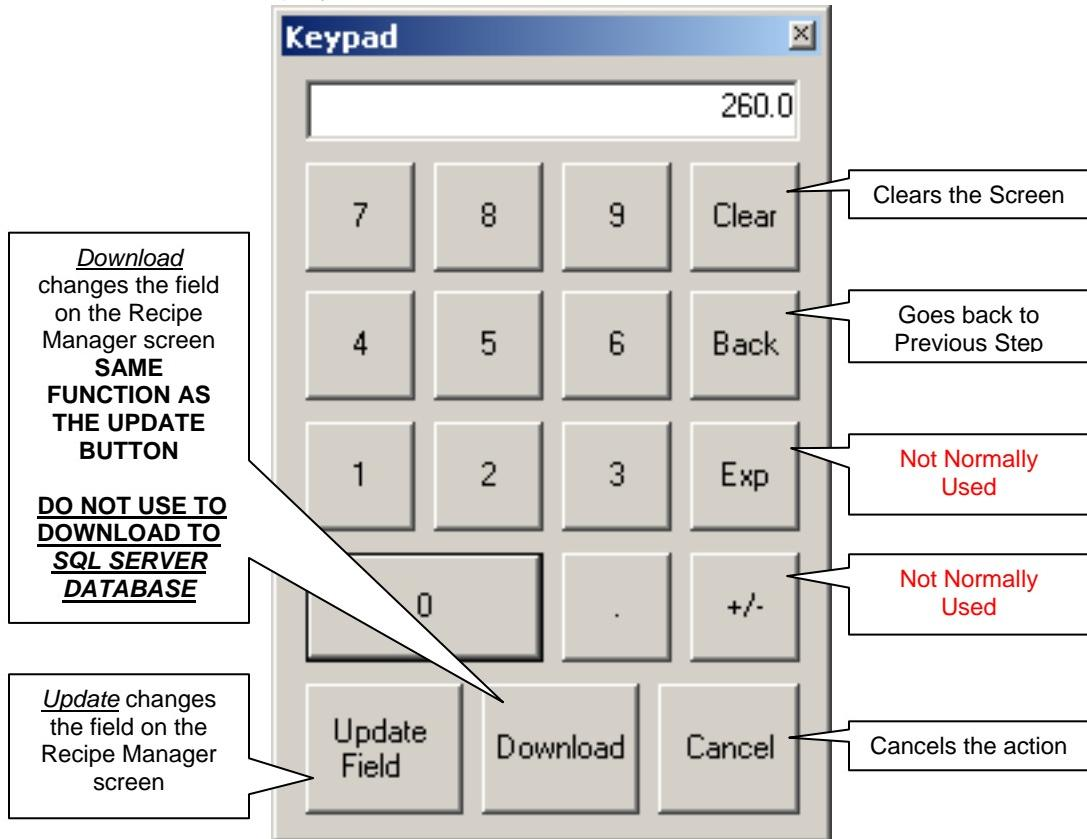

Fig 6.12
- Keypad screen will appear. (Fig 6.12)